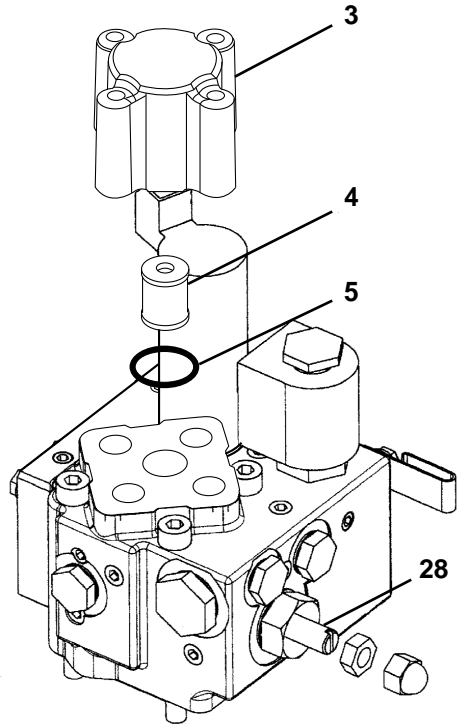

Figure 7
2. Remove filter element housing (Figure 7, (3)).
3. Remove filter element (Figure 7, (4)).
4. Remove and replace O-ring (Figure 7, (5)).